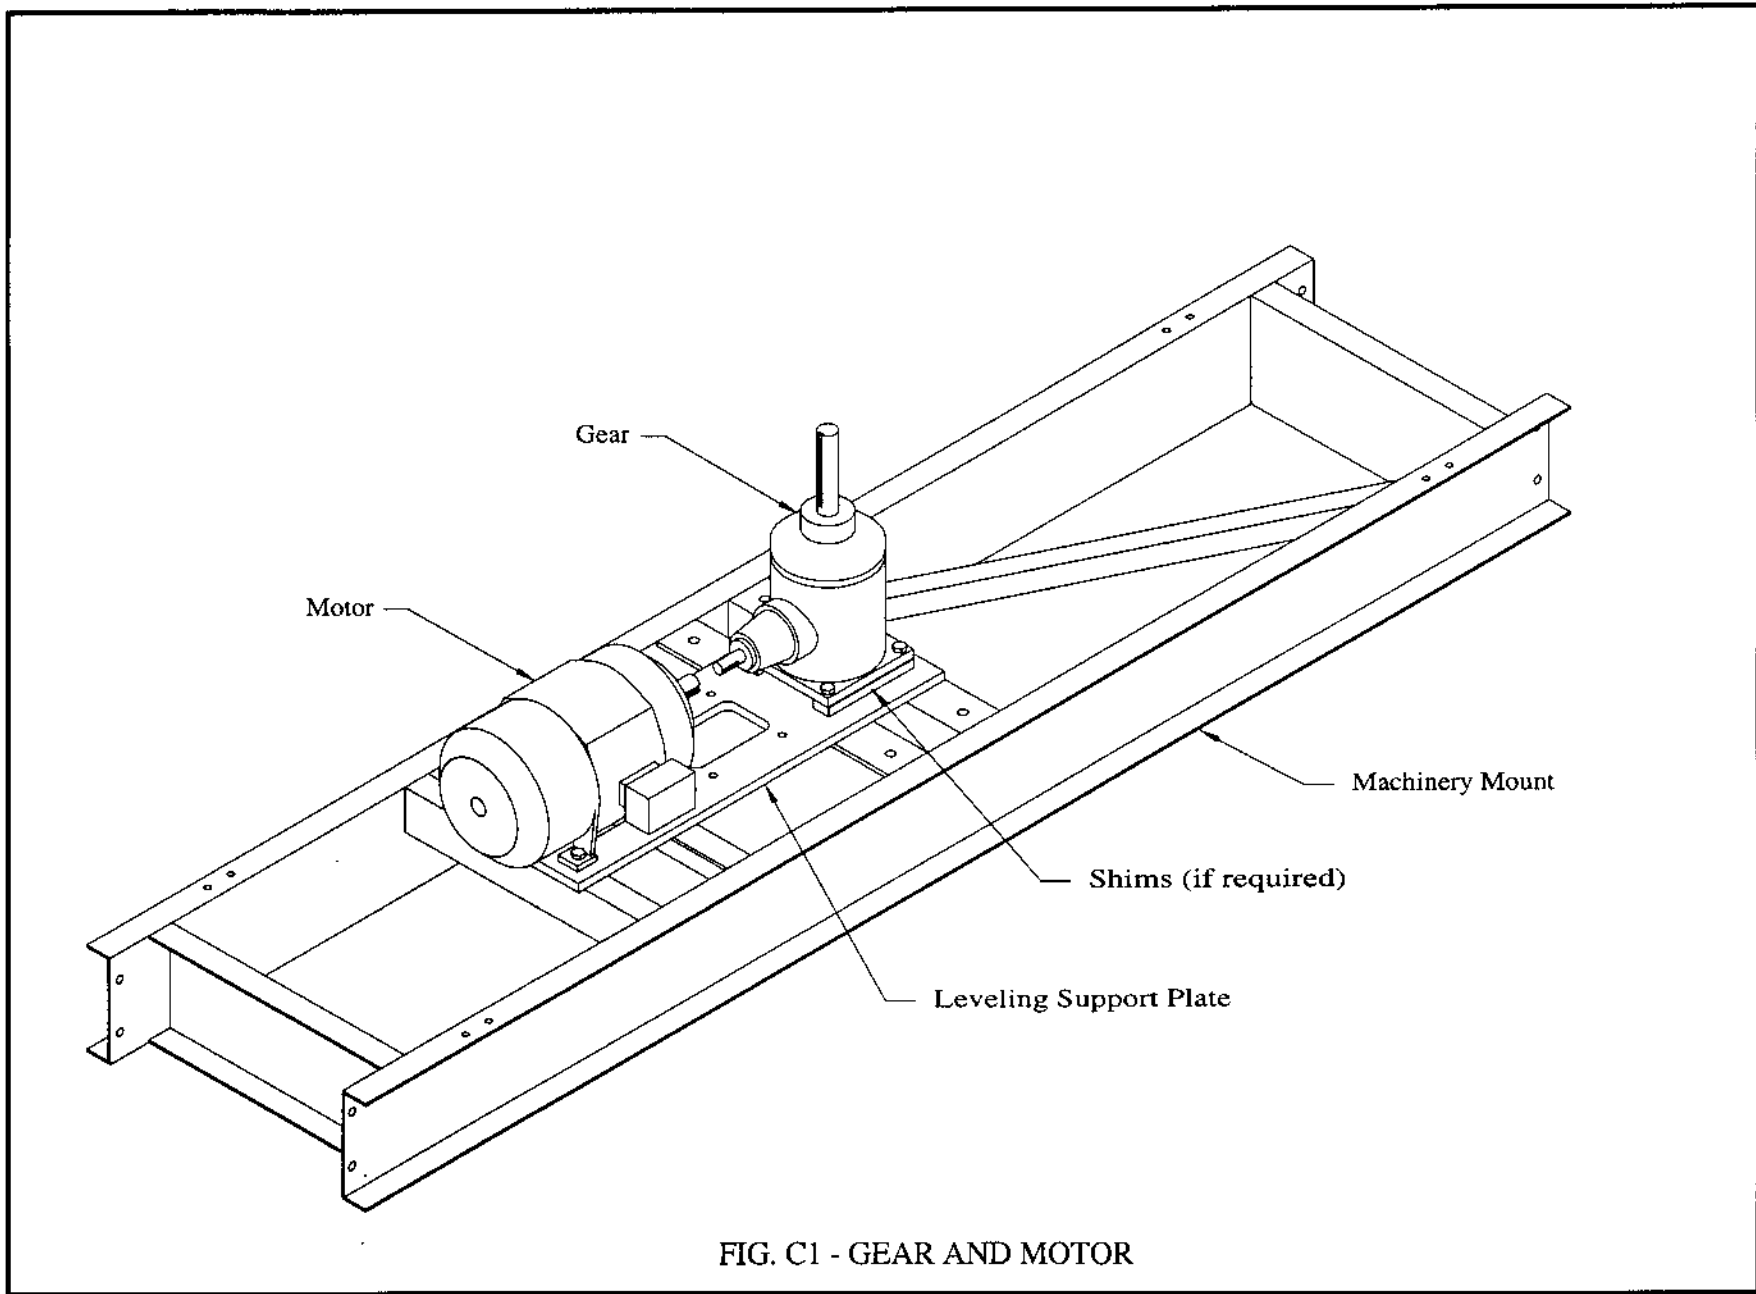

FIG. C1 - GEAR AND MOTOR
1. Place leveling support plate on machinery mount. Bolt gear and motor through leveling support plate, and shims if required, onto machinery mount. See Fig. C1.